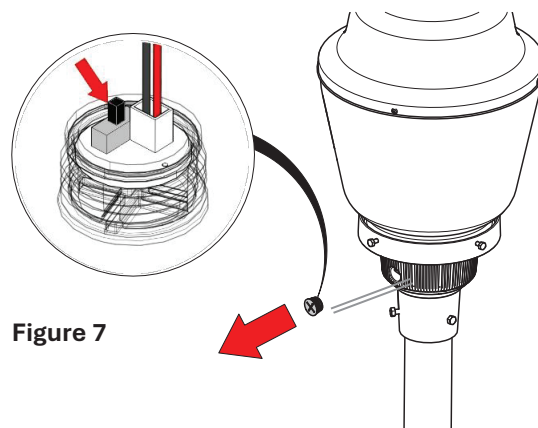

Figure 7
7. Remove the clear conduit plug to access the photocontrol switch [Figure 7]. Adjust to the desired setting and reinstall the plug securely to prevent water ingress.